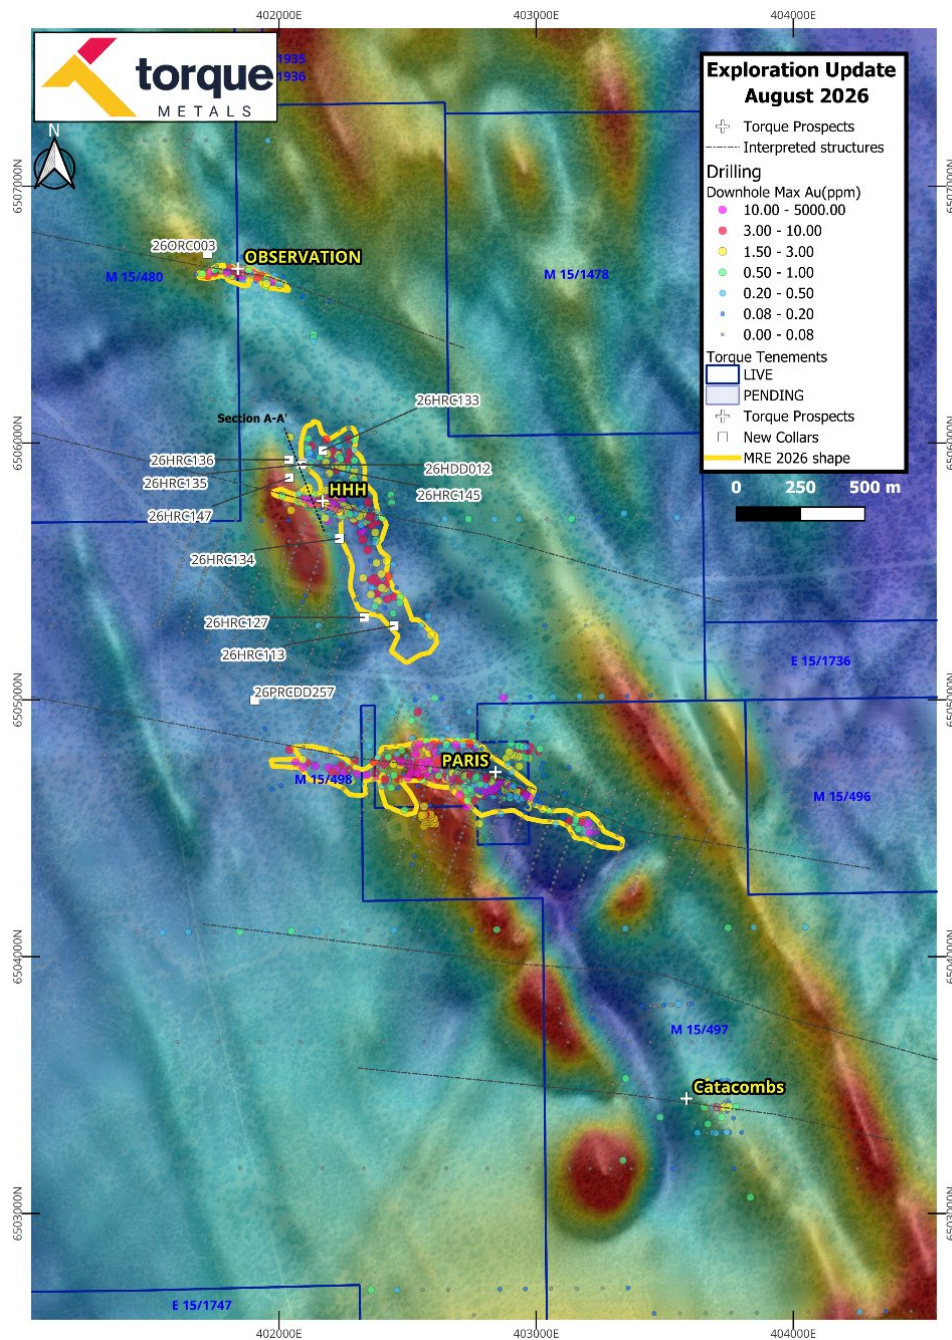

Figure 3: Plan view of the Paris Corridor and new drill-hole locations for this announcement with the regional magnetics.
- **7.9m @ 1.37g/t Au** from 146.2m (26HDD012) – indicating that potentially the same structure intersected in 26HRC135 continues in a very oblique plane to the drill direction of both 26HRC135 and 26HDD012. Figure 3 shows the current interpretation of these intersections.
Hole **26HRC135** was the standout, returning an exceptional grade intercept of **11.0m @ 456.00 g/t Au** from 122m, of which the highest concentration of visible gold ("nuggets"), was observed within the first three metres of this outstanding intersection. This result appears to coincide with the drillhole hitting the potential intersection point between two mineralised structures (flat and steep) as seen in Figure 3 below.
- The follow-up diamond hole **26HDD012**, drilled approximately 3m from 26HRC135, supports the potential down-dip extension of the high-grade mineralised structure (Figure 3). The intersection, 7.9m @ 1.37 g/t Au, is currently interpreted to represent a fringe or local pinch point of the sub vertical mineralised structure and supports further follow-up drilling along dip and strike to test the continuity of the potential localised high-grade mineralised domain.
Additionally, hole **26HRC135** intersected multiple mineralised shear zones as shown in Figure 3, with **2.0m @ 8.06 g/t Au intersected at 282m down-hole**. This intercept aligns with the main HHH west-plunging structure and previously modelled DHEM plates.